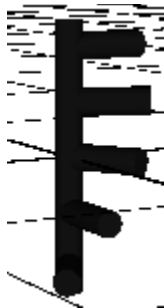

Figure L6.4 - Churning Blade
11. Now slide each spoke so that one end is attached to the post. Your finished object should look similar to Figure L6.4.